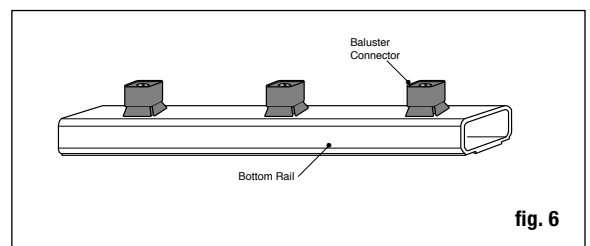

fig. 6
Step 7 Find the center of the underside of the bottom rail and attach the baluster connector included with the support block using the screw provided. Check building code requirements for the maximum spacing between deck surface and bottom of rail (sweep); we recommend 3" but it can be less if desired. If necessary, trim the support block to the determined height (fig. 6).